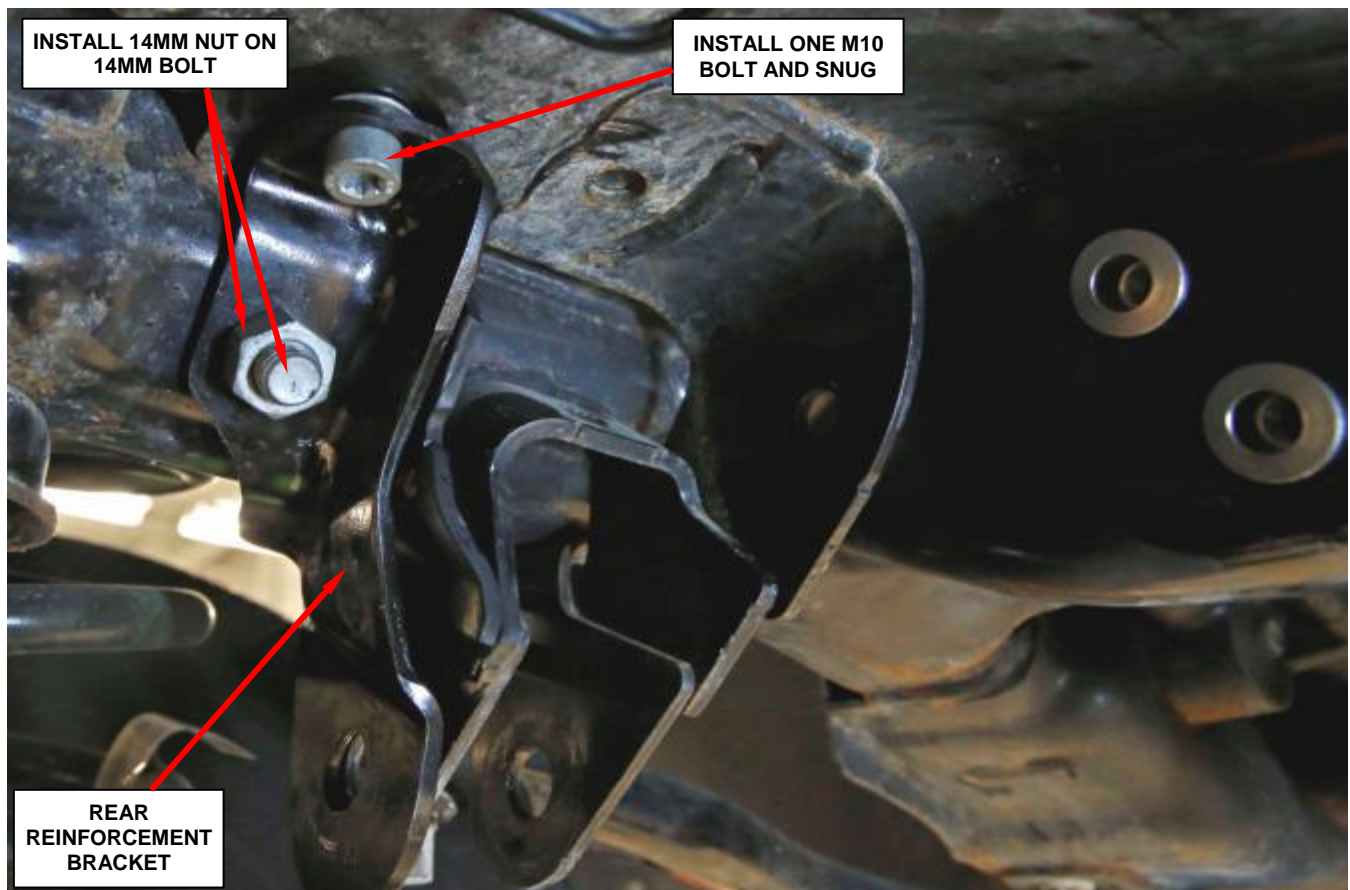

Figure 21 – Install One M10 Bolt and 14 mm Nut for Rear Reinforcement Bracket
38. Install the one M10 bolt for the rear reinforcement bracket finger tight (snug) (Figure 21).
40. Carefully remove the “bolt fish tape” tool from the 14 mm bolt and install the 14 mm nut finger tight (snug). (Figure 21)